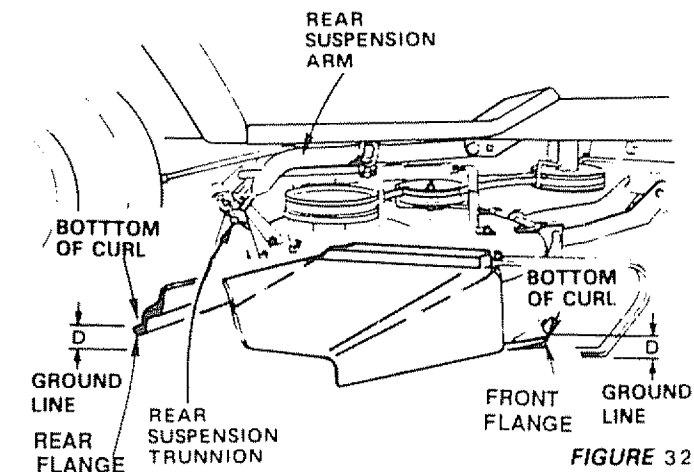

FIGURE 32
- To obtain the best cutting results, your mower housing should be adjusted so the front and rear flange distance "D" (Fig. 32) is 1/2" lower in front when the mower is positioned in the highest cutting position. **NOTE** MEASURE DISTANCE "D" FROM GROUND LINE TO BOTTOM OF CURL ON RIGHT REAR FLANGE AND COMPARE TO DISTANCE "D" AT BOTTOM OF CURL ON RIGHT FRONT FLANGE.